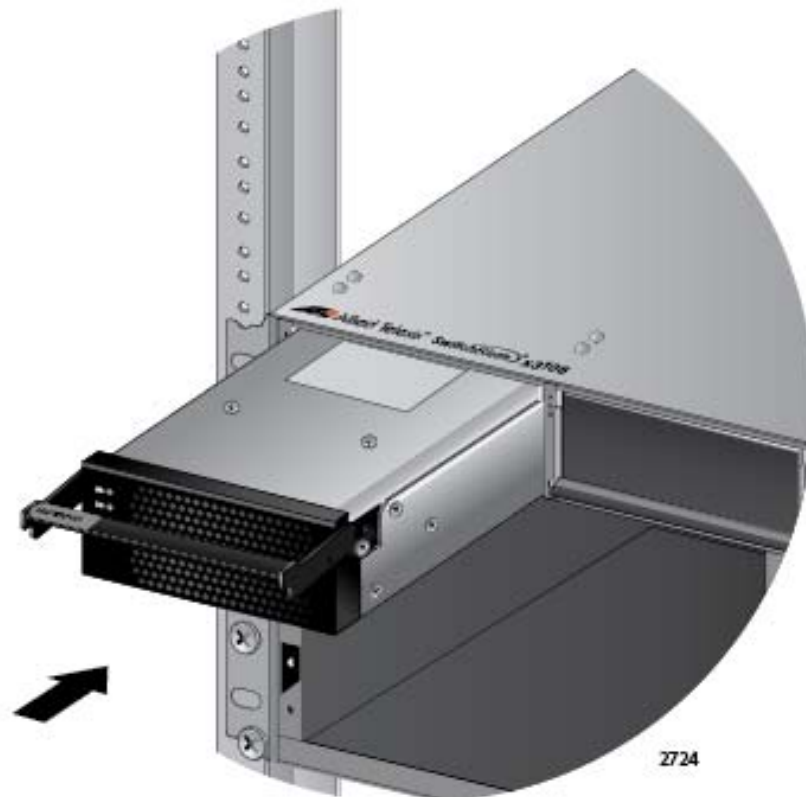

Figure 59. Inserting the AT-SBxPWRPOE1 AC Power Supply
5. Align and insert the AT-SBxPWRPOE1 Module into slot A or B. Figure 59 shows the power supply being installed in slot A.